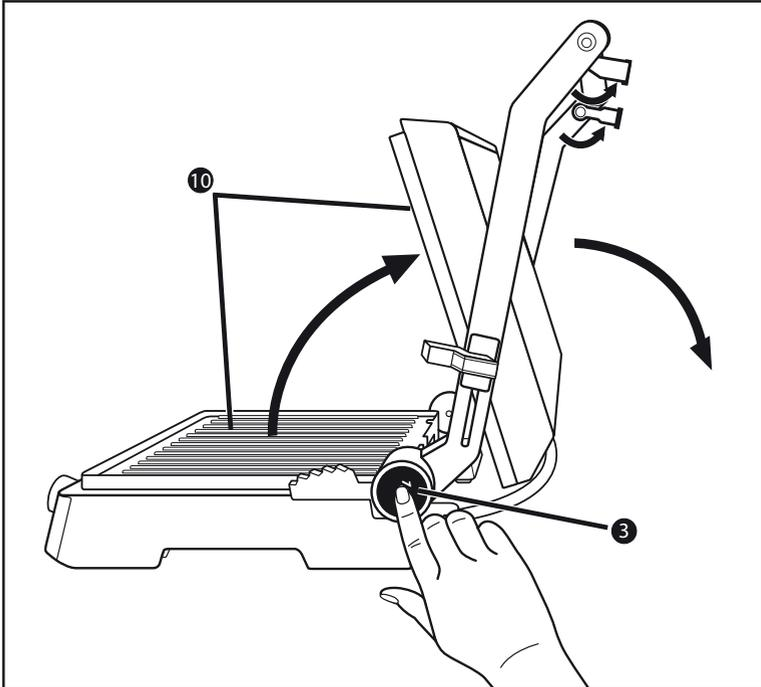

Fig. 1
- 1) Fold out both support feet **1** (Fig. 1).
- 2) Press the unlocking button **3** 180° **3** (Fig. 1) and open the appliance lid until both hotplates **10** can be used as a table grill.